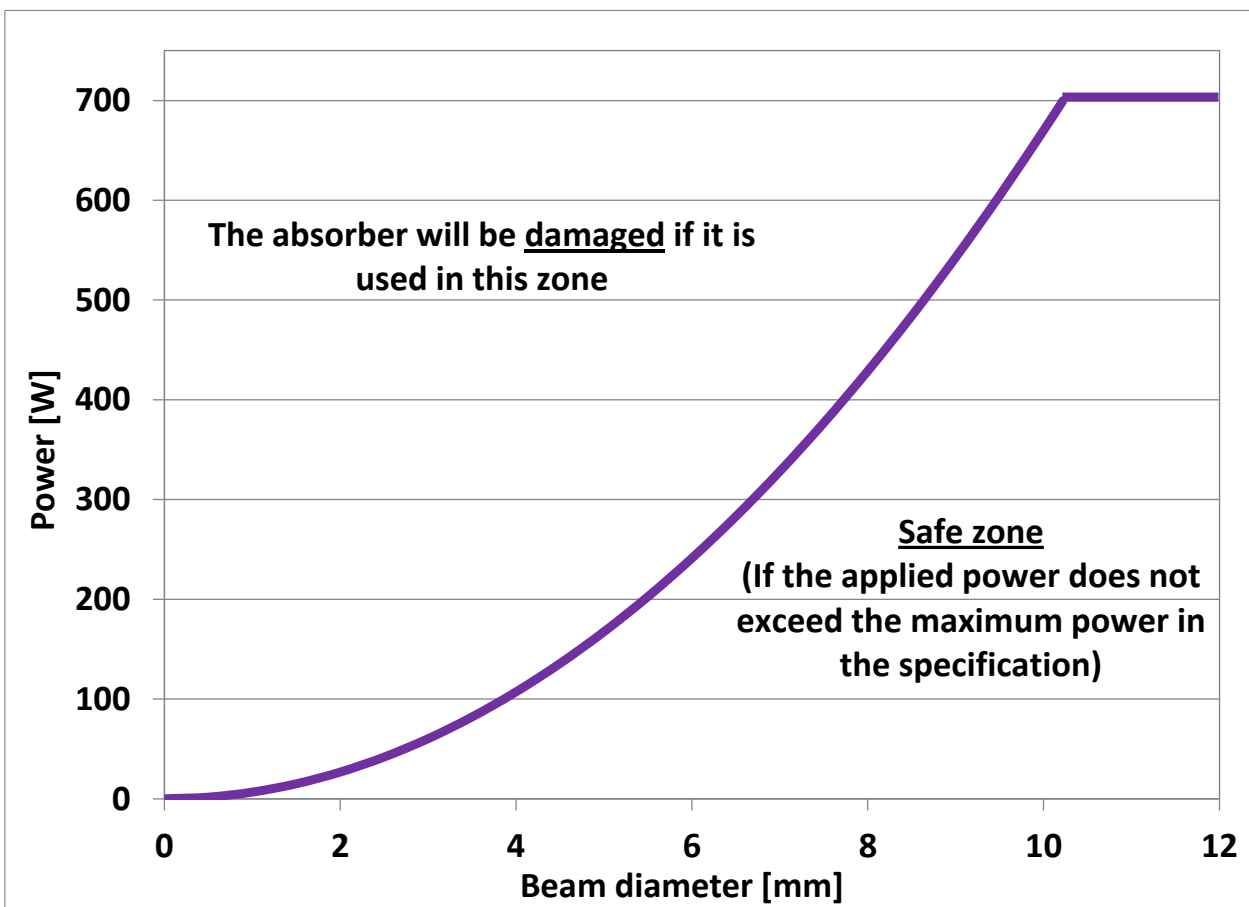

FIG. 1-10 MINIMUM BEAM SIZES FOR UP WITH H-TYPE ABSORBER AT 1.064  $\mu$ M.
1. Required specifications for customer-supplied back module are given in Fig 1-10 through 1-12. Note that tapped holes must be electrically conductive, and that there has to be at least bare spots to allow electrical contact with detector (see point 5.).